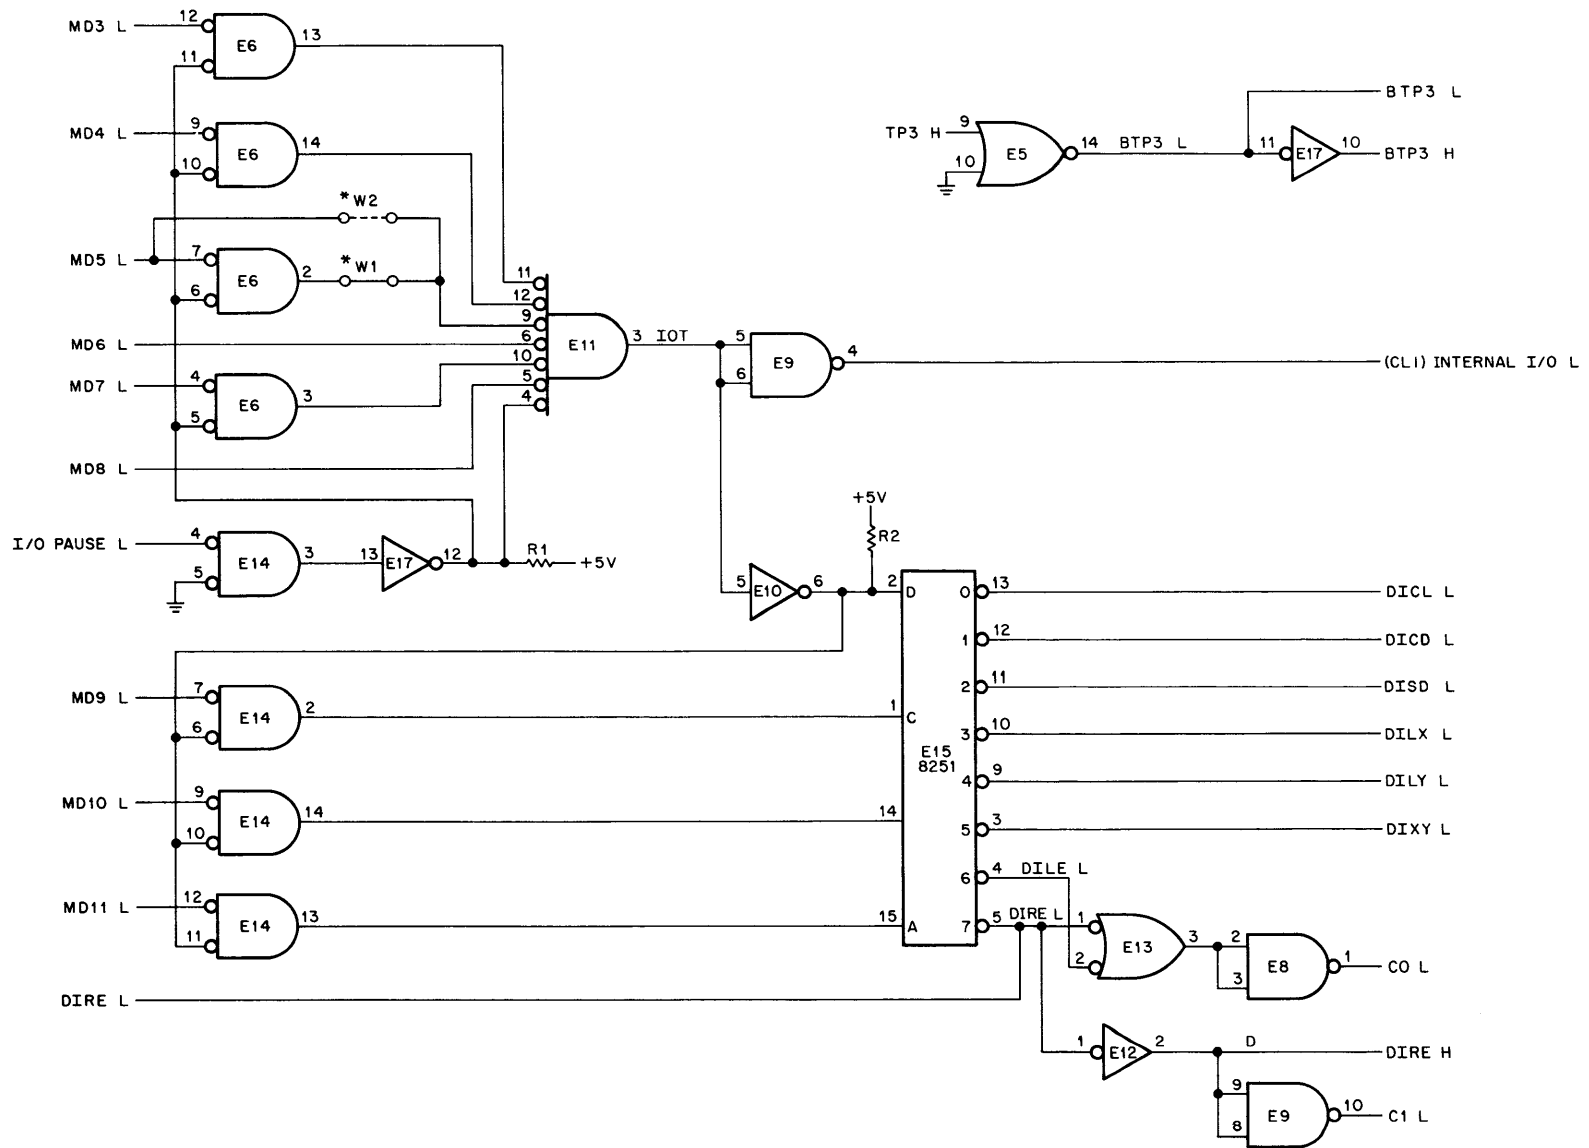

Figure 4-36 Device and Operation Select Logic
**4.4.2.1 Device and Operation Select Logic** – The Device and Operation Select logic (see Figure 4-36) decodes MD03–MD11 and selects the device and type of operation that will be performed. MD3–MD8 are gated for each MD Line by I/O PAUSE. An internal I/O PAUSE signal is generated in the timing generator whenever MD bits 0–8 are decoded as a 65 (octal). The 8251 IC is a BCD-to-Decimal Decoder that will provide low outputs on one line; e.g., MD9–MD11 is 011. Pin 3 will have a low output, indicating that this is a 6053 (DILX) instruction. The truth tables, logic diagrams, and pin locator for the 8251 IC are in Appendix A of the *PDP-8/E Maintenance Manual*. The output of the Operation Select logic will provide signals to enable Interrupt logic, select the C lines, allow loading of the X and Y Registers, generate a Z-axis pulse, and clear the logic after the data is displayed.